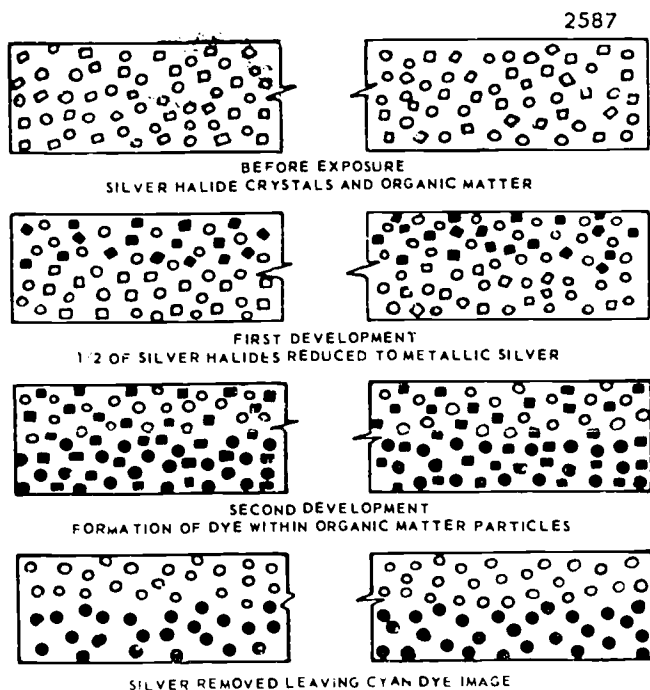

Figure 2-22. How cyan dye is formed in the reversed image of the red-sensitive layer.
The process of dye formation is illustrated in figure 2-22, which shows only the red-sensitive layer, but the same composition exists in each of the three layers. After you immerse the film in the color developer, the developing agent penetrates the particles of organic matter and reacts with the coupler. The color of dye formed depends on the type of coupler you use in each layer.
3. During reversal processing, the film is accidentally exposed to a red safelight. What color dye will be produced by this exposure? (Refer to fig. 2-22.)